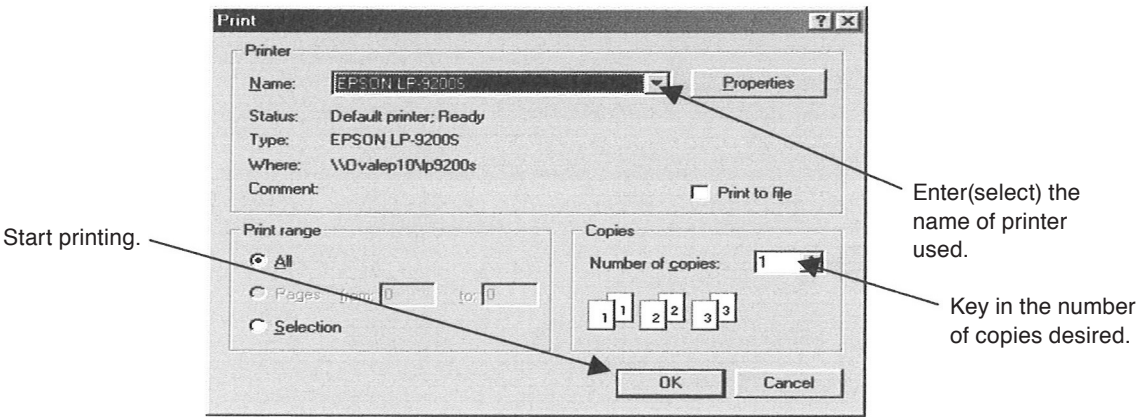

Fig.67
- ① Click on "File (F)" at top-level menu of the screen, select "Print (P)" and click on again. Make sure of the data at "Database Screen" in advance.
- ② On setting the window like the one shown in Fig. 67, type in the name of printer used, the number of copies desired along with other factors required, and click on "OK". With this operation, you can obtain a hard copy of the list of parameters.